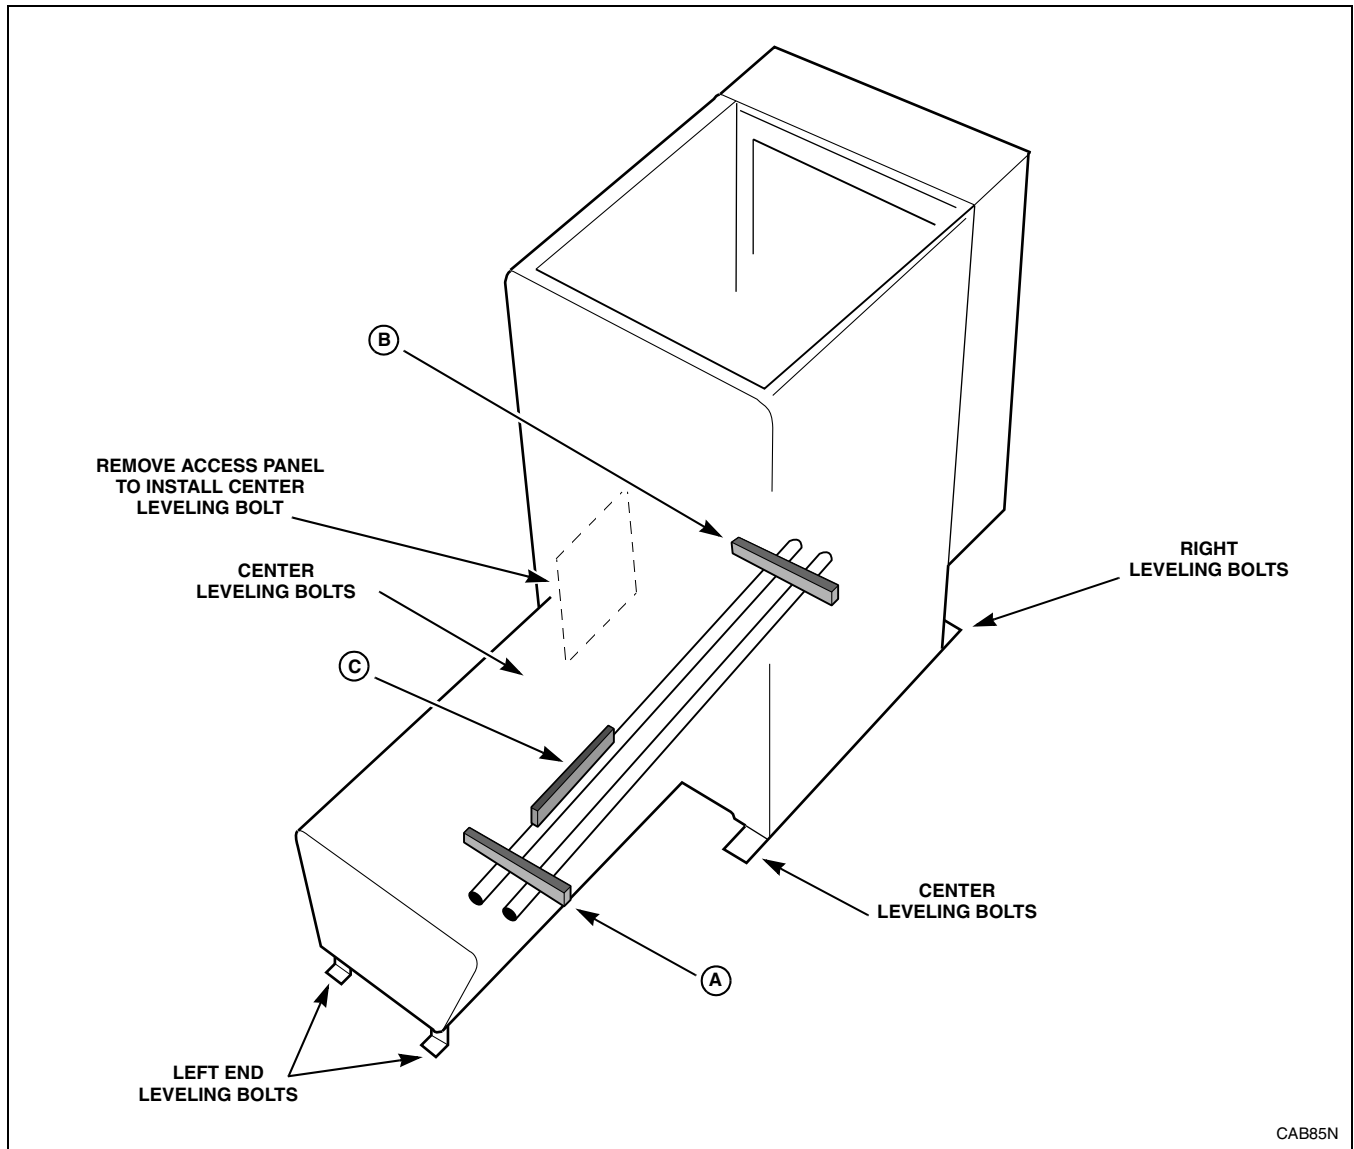

Figure 3
Refer to *Figure 3*.
8. Place a level across carriage rails at A and adjust left end leveling bolts. Refer to *Figure 3*.
9. Move level to location B and adjust right end leveling bolts. Refer to *Figure 3*.